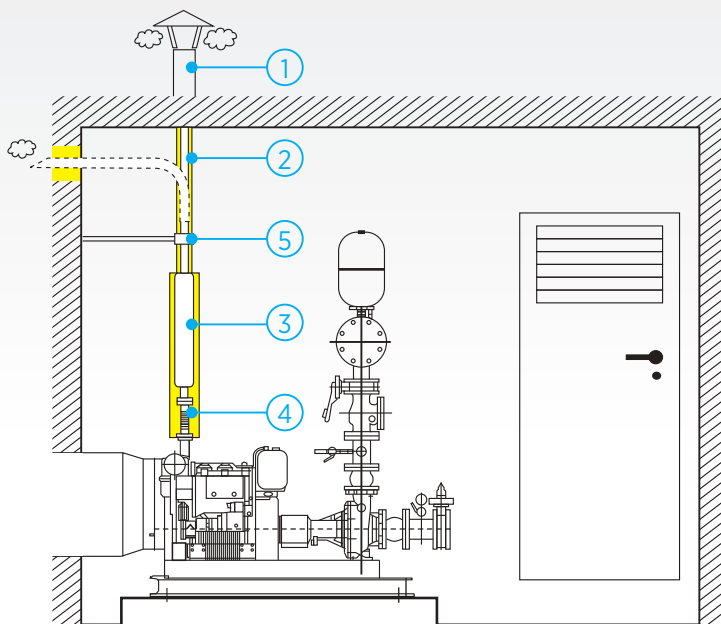

Figure 3
1. Pump room should be ensured to be well-ventilated. Proper combustion air supply as well as fresh air cooling in air or water cooling types are of significant importance. Furthermore, against the possibility of exhaust gas escaping into the room, the room should be most appropriately ventilated with outer air. If possible, this ventilation should be ensured through a direct channel from the radiator inlet of the diesel pump to the outer air. (Figure 3)